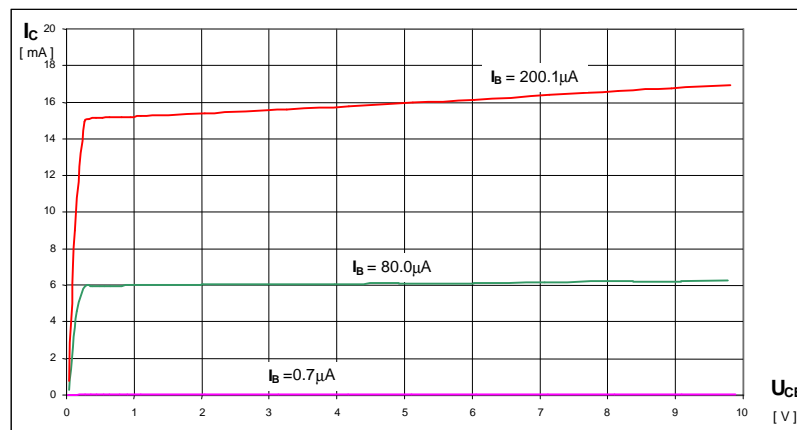

Fig. 1. Family of I_C versus U_{CE} for several values of I_B .
13. Turn to the most left position the current knob on the Adjustable Current Source (ZP).
14. Turn to the most left position the voltage knob on the Adjustable Voltage Regulator (ZN).
15. Plot the $I_C(U_{CE})$ dependences. As an example the family of I_C versus V_{CE} curves for several values of I_B is presented on Fig. 1.